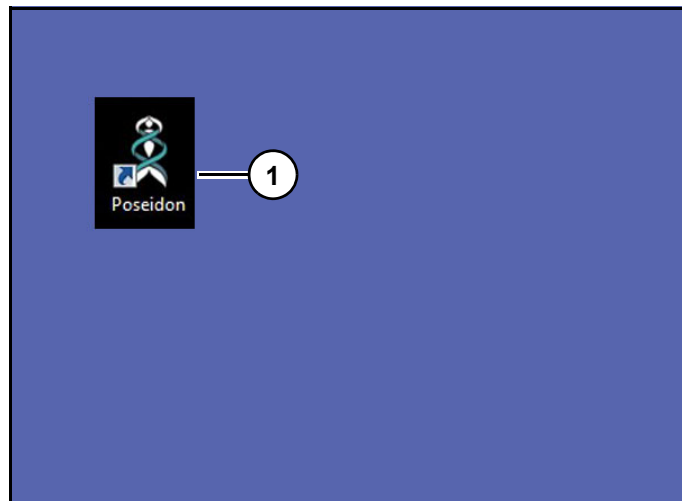

Figure 2
1. Double click "Poseidon program icon" (1) (*Figure 2*) on desktop.